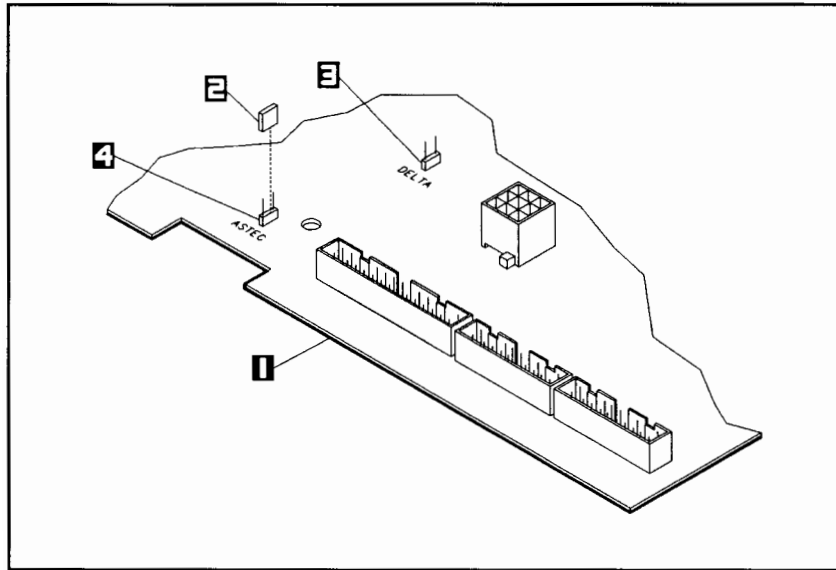

Figure 8-2. Checking the Power Supply Jumper
2. Check the location of the power supply jumper on the new HP-FL controller PCA. See Figure 8-2. If the jumper is not on the connector corresponding to the type of power supply installed, move the jumper to the proper connector.
2. When installing a new power supply in an FL-model disk storage system, check the location of the power supply jumper on the HP-FL controller PCA. See Figure 8-2. If the jumper is not on the connector corresponding to the type of power supply being installed, move the jumper to the proper connector.